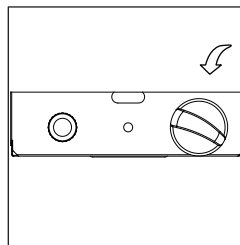

Figure 5
8. Push in and turn the control knob to the "HIGH", then release control knob. If you want a lower temperature, push in the control knob and turn counterclockwise to the "LOW" (Figure 5).